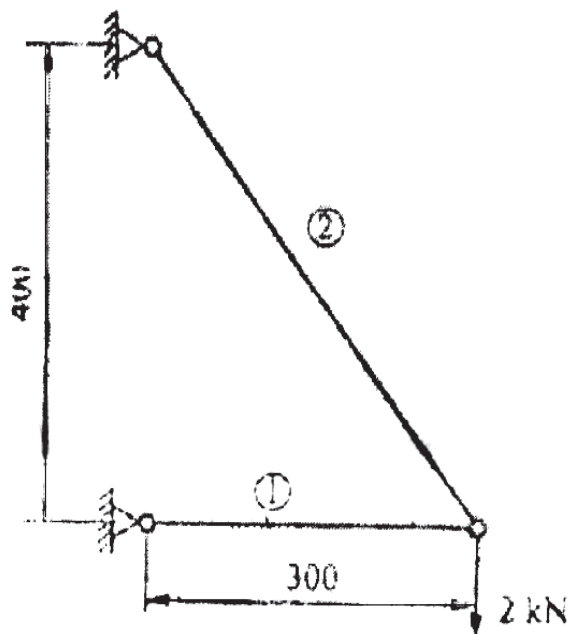

Fig. 1
b) A two member truss is as shown in the Fig.1. The cross - sectional area of each member of the truss is  $100 \text{ mm}^2$  and the modulus of elasticity is  $200 \text{ GPa}$ . Determine the deflections, reactions and stresses in each of the members. [10]